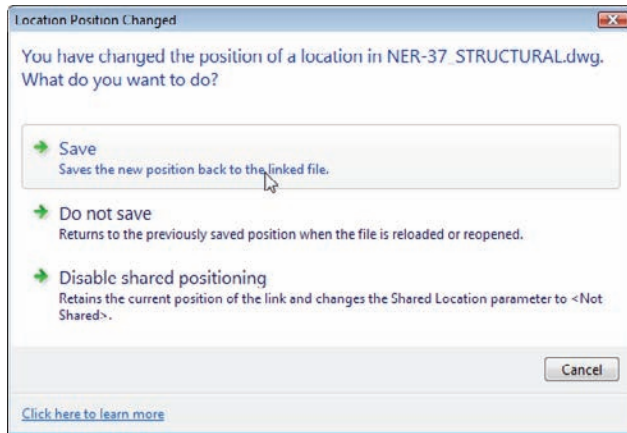

FIGURE 20.24 Saving the coordinates to the AutoCAD file
10. After you save the Revit model, you're prompted to save the new coordinates in the DWG file. Click the Save button, as shown in Figure 20.24.